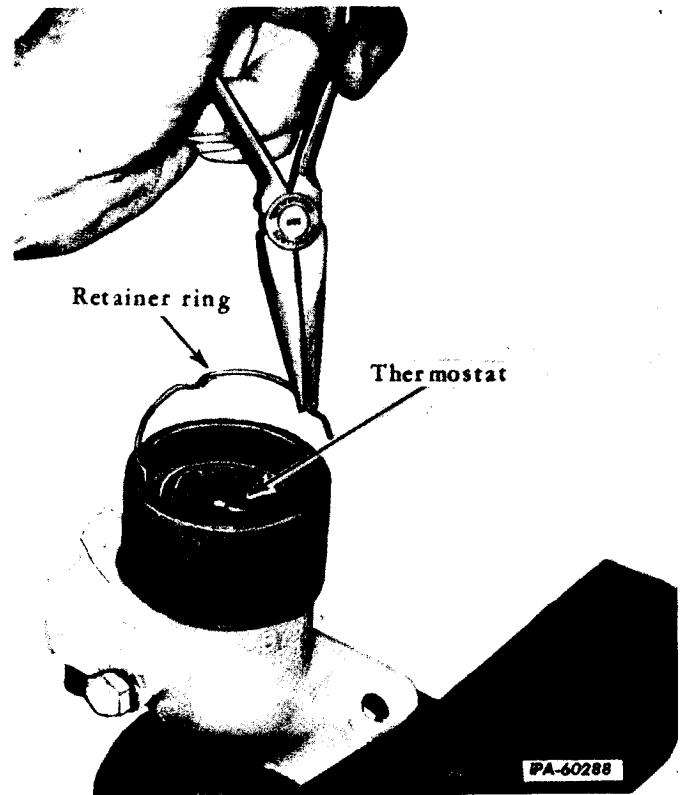

Fig. 25 - Removing the Retaining Ring.
2. Remove the thermostat retainer ring (Fig. 25), rubber washer (if equipped) and remove the thermostat from the water outlet elbow.
1. Place the thermostat (bellows down) in the water outlet elbow. Install the rubber washer (if equipped) and retainer ring (Fig. 25).